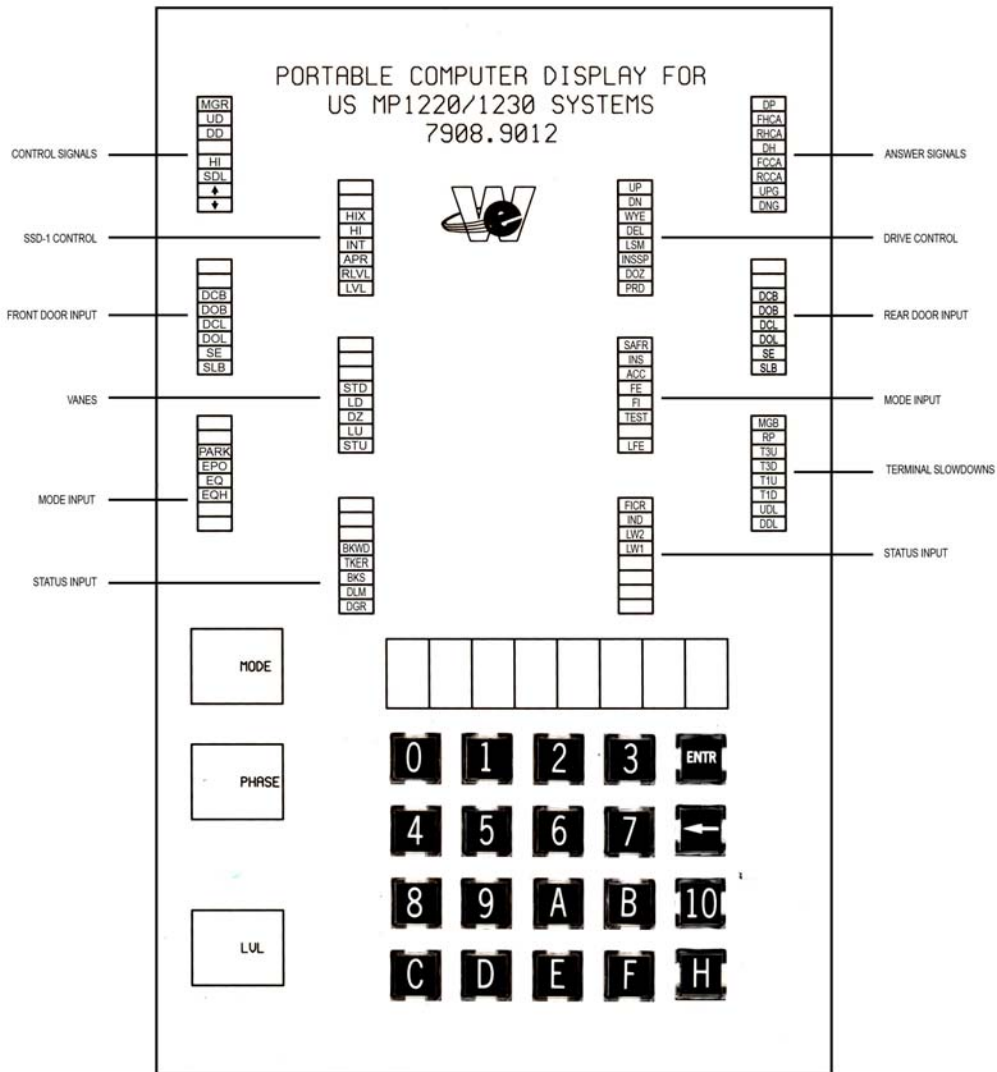

FIGURE 1-2
**LED Indicators** The LED indicators are in 12 rows of 8 LEDs each. These are used to show the status of operational signals. In general, a LED ON indicates a closed contact or an output signal being driven ON. The default display (D0) is shown in Figure 1-2. This display is selected whenever the controller is reset. Other displays are also selectable by using the keyboard.
**Display Formats and Codes** There are 14 possible display formats for the 12 rows of LEDs on the PCD. The display codes and formats are identified in the following list: (See Figures 1-2 through 1-14)
- 0 = Basic Control Signals / Default Display (Figure 1-2)